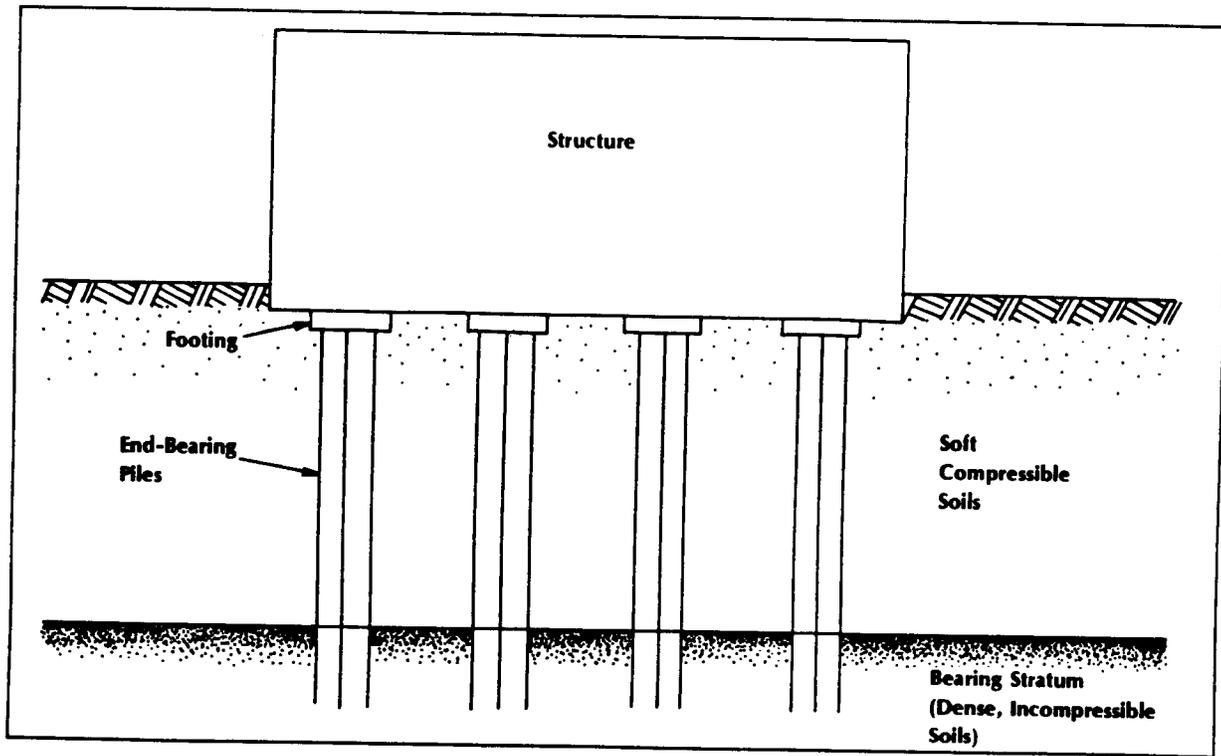

Figure 1-1 Pile foundation for structure support
a. Piles. A pile is a long, columnar element made of timber, steel, concrete, or a combination of these materials (discussed in chapter 2). Piles transmit foundation loads to deeper strata that sustain the loads safely and prevent settling of the supported structure. Piles derive their support from a combination of skin friction along the embedded lengths and end bearing at the tips or bottoms (figure 1-1).
Several uses of piles are illustrated in figures 1-1 through 1-7. A pile or series of piles are used to constructor reinforce construction to